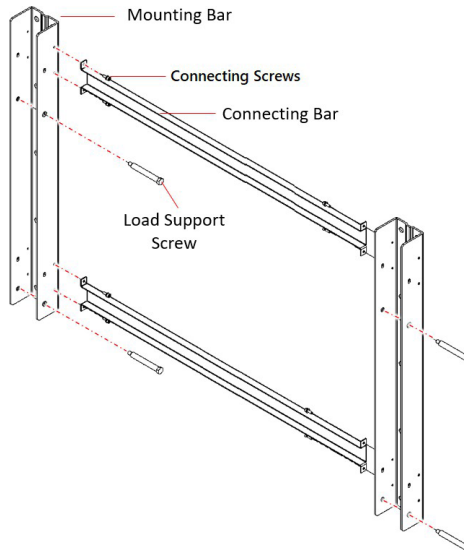

Figure 24 Assembling the Mounting Bracket
1. Insert and secure the four Load Support Screws into the two Mounting Bars (See Figure 24). Torque the Load Support Screws to 8 N*m.
If required, ground the Mounting Bracket of the inverter as shown in *Figure 24*.